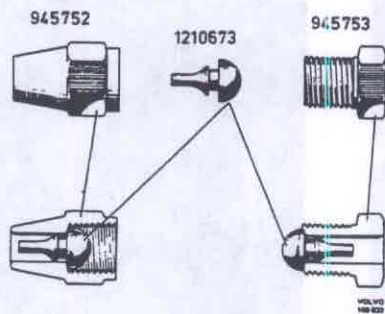

Fig. 46-111. Sealing nipple
4. Remove the shock absorber from its lower anchorage. Disconnect the brake pipe from the brake backing plate. Plug the pipe with sealing nipples. Concerning a suitable nipple, see Fig. 46-111. Volvo Part Nos. 945752 + 1210673.